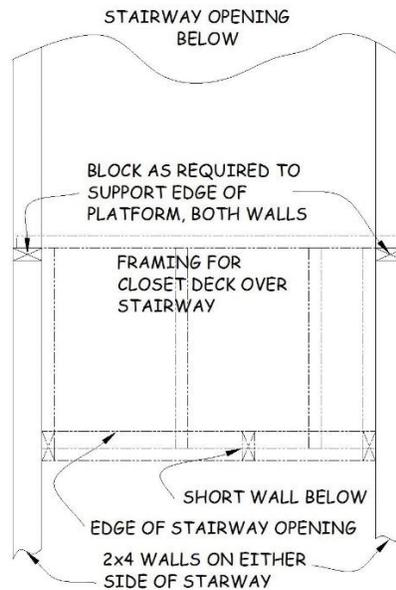

Figure 3-11. Stud Layout Around Stairway Opening.
- d. Locate the plates labeled ‘13¾” WALL/10¾” STUDS’ and layout two end studs and one interior stud 24” o.c. (see Figure 3-11 and Section 6.4).